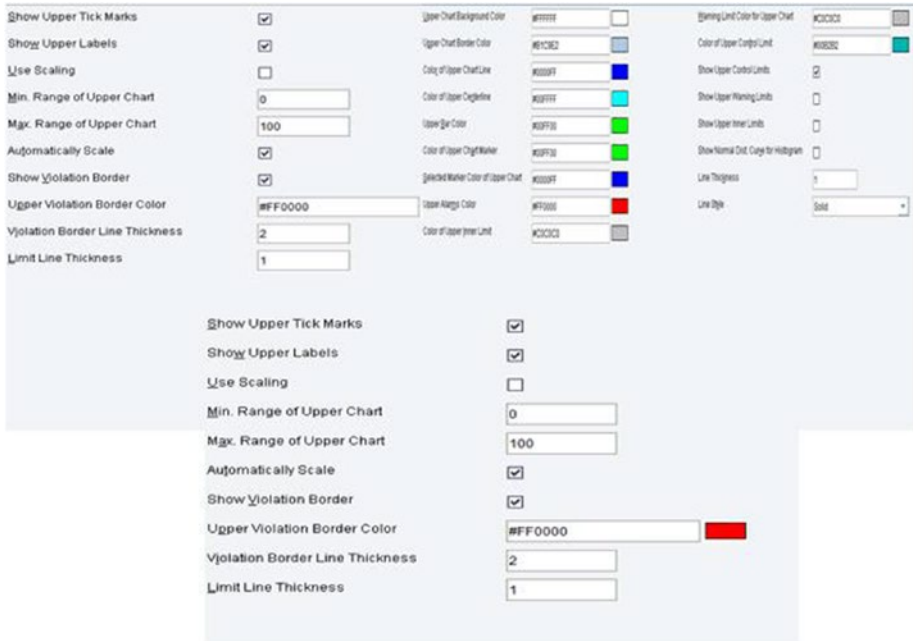

Figure 7-58. i5SPC Chart's various control limit configuration properties
- The Upper Chart Control Limits configuration configures the upper chart control limits of the Statistical Process Control (SPC) chart. See Figure 7-58.